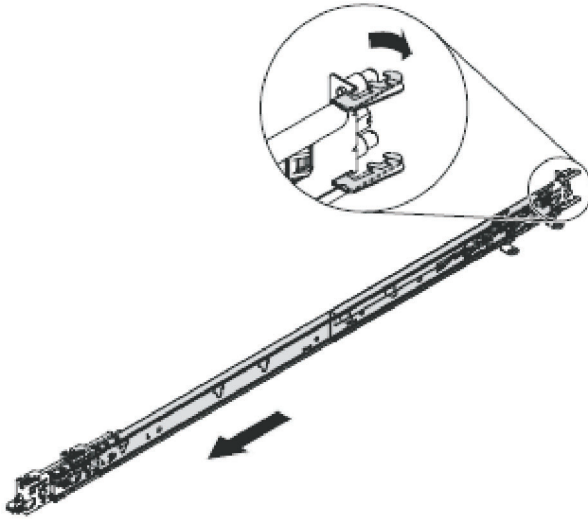

Figure 48. Opening the rear slide-rail hooks
2. Open the rear-slide-rail hooks, as shown in Figure 48.